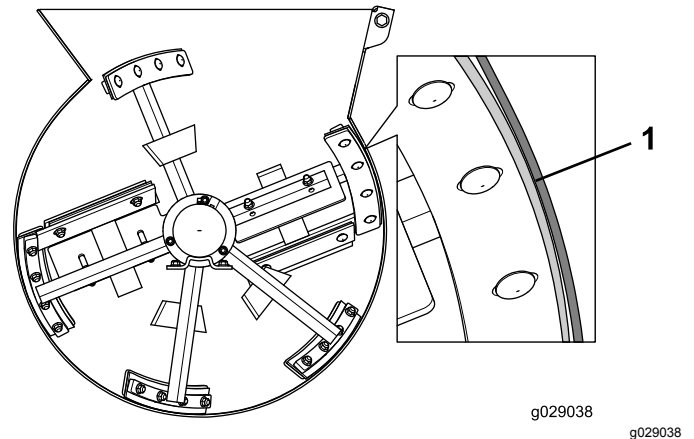

Figure 71
5. Adjust the position of the wiper so that the wiper lightly contacts the drum across the length of the wiper (Figure 71).